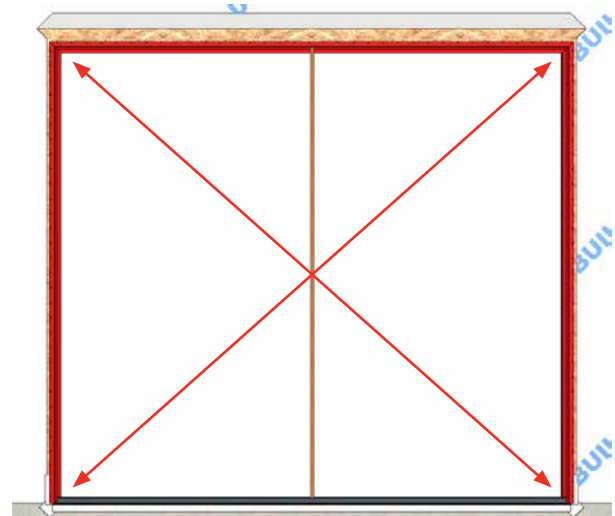

Fig 25
- Square the frame in the rough opening measuring diagonally across the unit from the lower corner of the Sill on one side to the top corner of the Head on the opposing side (Fig. 25).